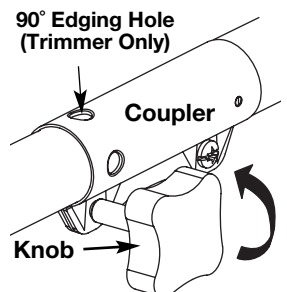
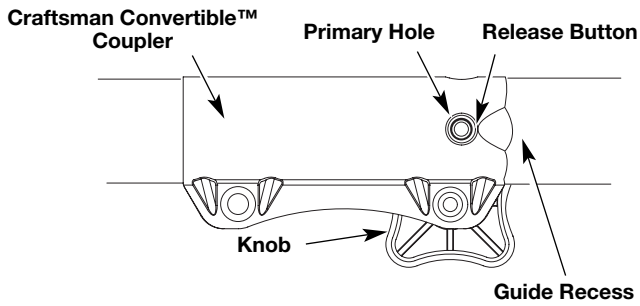
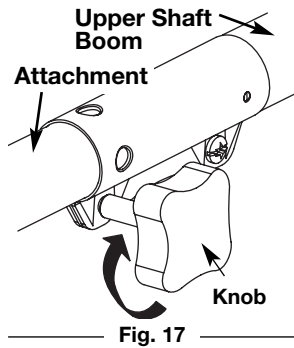

Fig. 15
Fig. 16
Fig. 17
2. Turn the knob counterclockwise to loosen coupler (Fig. 15).
3. Push in the release button (Fig. 16) and twist the shaft 90° until the release button snaps into the 90° hole (Fig. 15).
4. Turn the knob clockwise to lock the coupler (Fig. 17).
2. Turn the knob counterclockwise to loosen the coupler (Fig. 15).
3. While firmly holding the attachment, push it straight into the coupler until the release button (Fig. 16) snaps into the primary hole (Fig. 16). The primary hole is on the opposite side of the coupler from the knob (Fig. 16). Align the release button with the Guide Recess (Fig. 16) to help installation.
CAUTION: Before operating this unit, be sure that the release button is fully snapped into the primary hole (Fig. 16), and that the knob (Fig. 17) is securely tightened.
3. Press and hold the release button (Fig. 16).
4. While firmly holding the upper shaft boom (Fig. 17), pull the attachment out of the coupler.